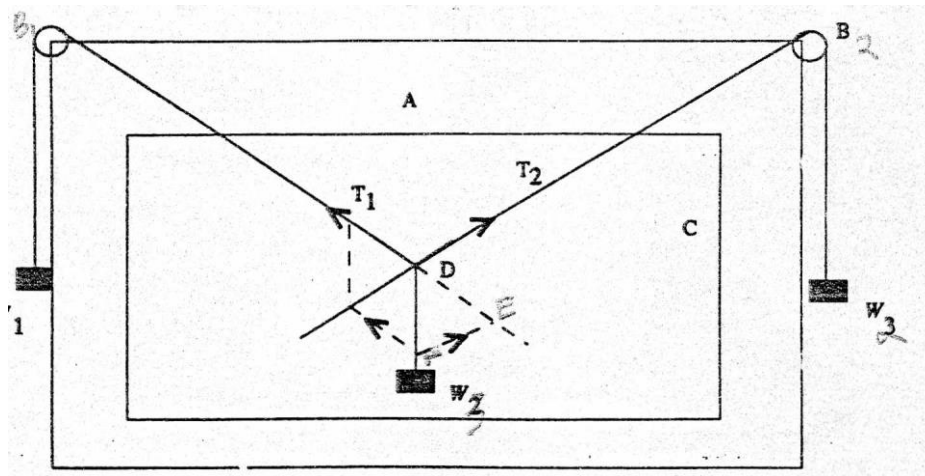

Fig. 4
1. Set up the apparatus as shown in Fig. 4.